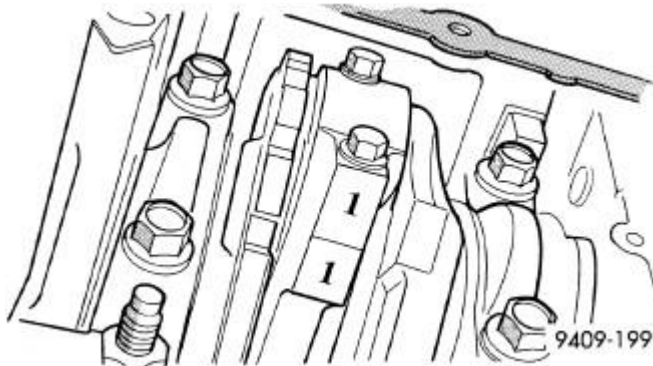

Fig. 164: Identify Connecting Rod To Cylinder Position - Typical
4. Mark connecting rod and bearing cap positions using a permanent ink marker or scribe tool. See **Fig. 164**.